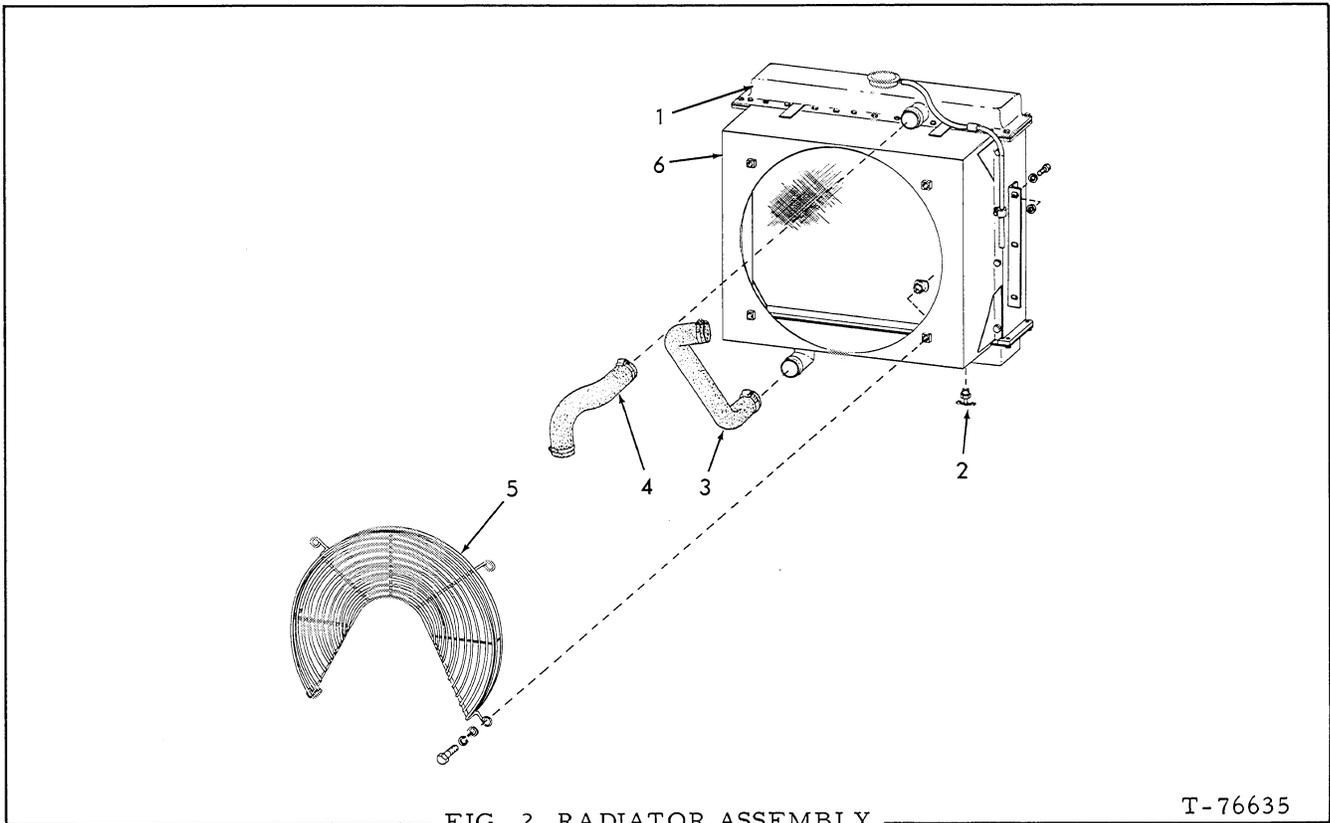

FIG. 2 RADIATOR ASSEMBLY
Loosen hose clamps attaching the radiator top hose, Fig. 2 (4), and bottom hose (3) to the radiator and remove hoses from radiator.
Remove radiator grill and fan guard, Fig. 2 (5). Remove capscrews, lockwashers, and plain washers attaching the radiator to the radiator support and remove the radiator and shroud as an assembly.
Remove fan guard, Fig. 2 (5); loosen capscrews, Fig. 3 (7) and (5). Push alternator in, and remove belts from alternator pulley. Slip belts from crankshaft pulley then over fan blades and remove the belts.
Remove fan guard, Fig. 2 (5); loosen capscrews, Fig. 3 (7) and (5). Push alternator in to relieve tension on fan belts.